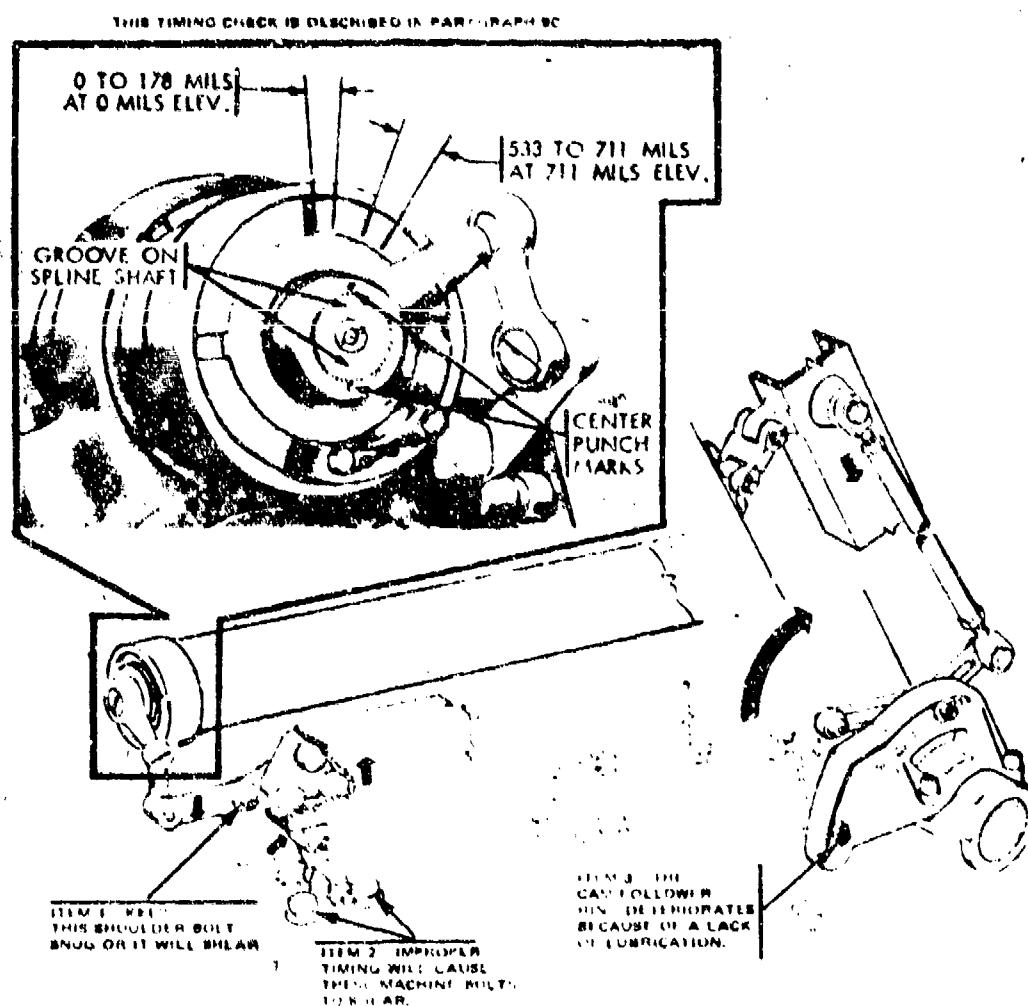

Figure 4-35. Variable recoil actuating or assembly with timing check procedures.
(5) *Variable recoil actuating assembly problems.* The hardware that composes the variable recoil actuating assembly (fig 4-35) has
(a) First is the variable recoil shoulder bolt (item 1, fig 4-35). Investigations and reports from the field indicate that the shoulder bolt has a tendency to vibrate loose and then shear during firing operations.
(b) The second item of interest on the M102 variable recoil actuating assembly is the variable recoil machine bolts (item 2, fig 4-35). Investigations and field reports have revealed that these bolts will also vibrate loose and then be sheared during firing operations.
1. Depress the cannon to 0 mils elevation and insure that the center punchmarks are between the ranges indicated by the painted area for 0 to 178 mils (fig 4-35).
(d) *Cam follower ring.* The last item of interest on the variable recoil actuator assembly is the cam follower ring (item 3, fig 4-35). Reports from the field indicate that the ring deteriorates or breaks during firing and thus causes maladjustment of the howitzer variable recoil system.